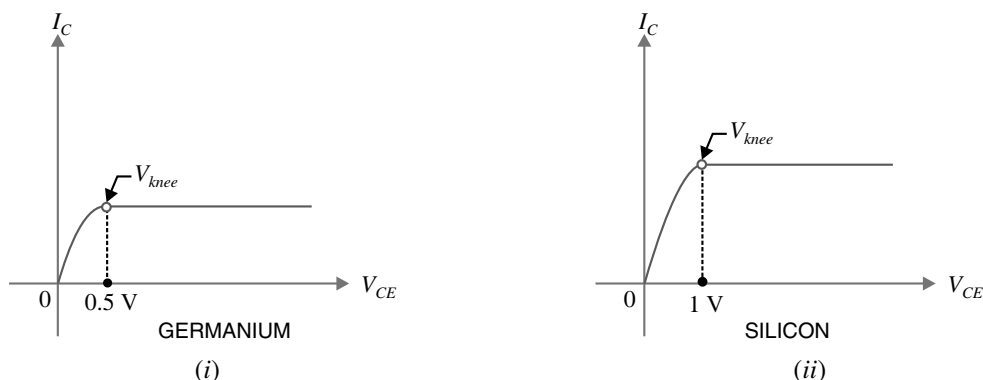

Fig. 7.4
**(iii) Proper minimum  $V_{CE}$  at any instant.** For faithful amplification, the collector-emitter voltage  $V_{CE}$  should not fall below 0.5 V for Ge transistors and 1 V for silicon transistors. This is called *knee voltage* (See Fig. 7.4).